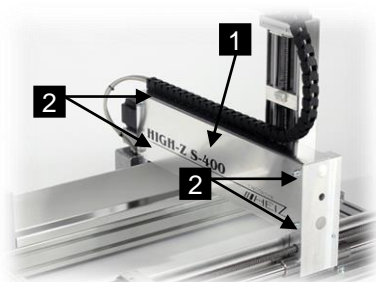

Figure 29: Cover Y-axis
- 2 Loosen and remove the four screws (Fig. 29/2).
- 3 Remove the cover (Fig. 29/1) on the Y-axis.